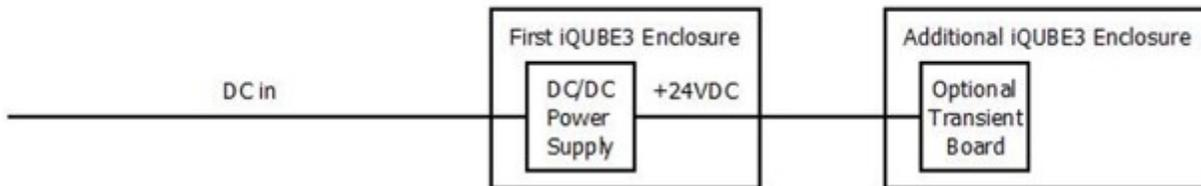

Figure 1-3. iQUBE3 with Remote 9-36 VDC power supply
- Remote 9-36 VDC power supply with transient voltage surge suppressor (Figure 1-3)